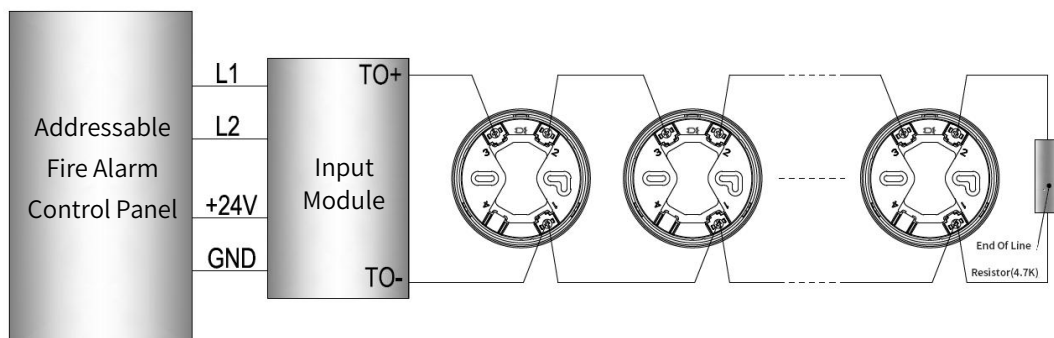

Fig.4
- b. The detector connects to the Addressable Fire Alarm Control Panel through the input module, as shown in Fig.4: